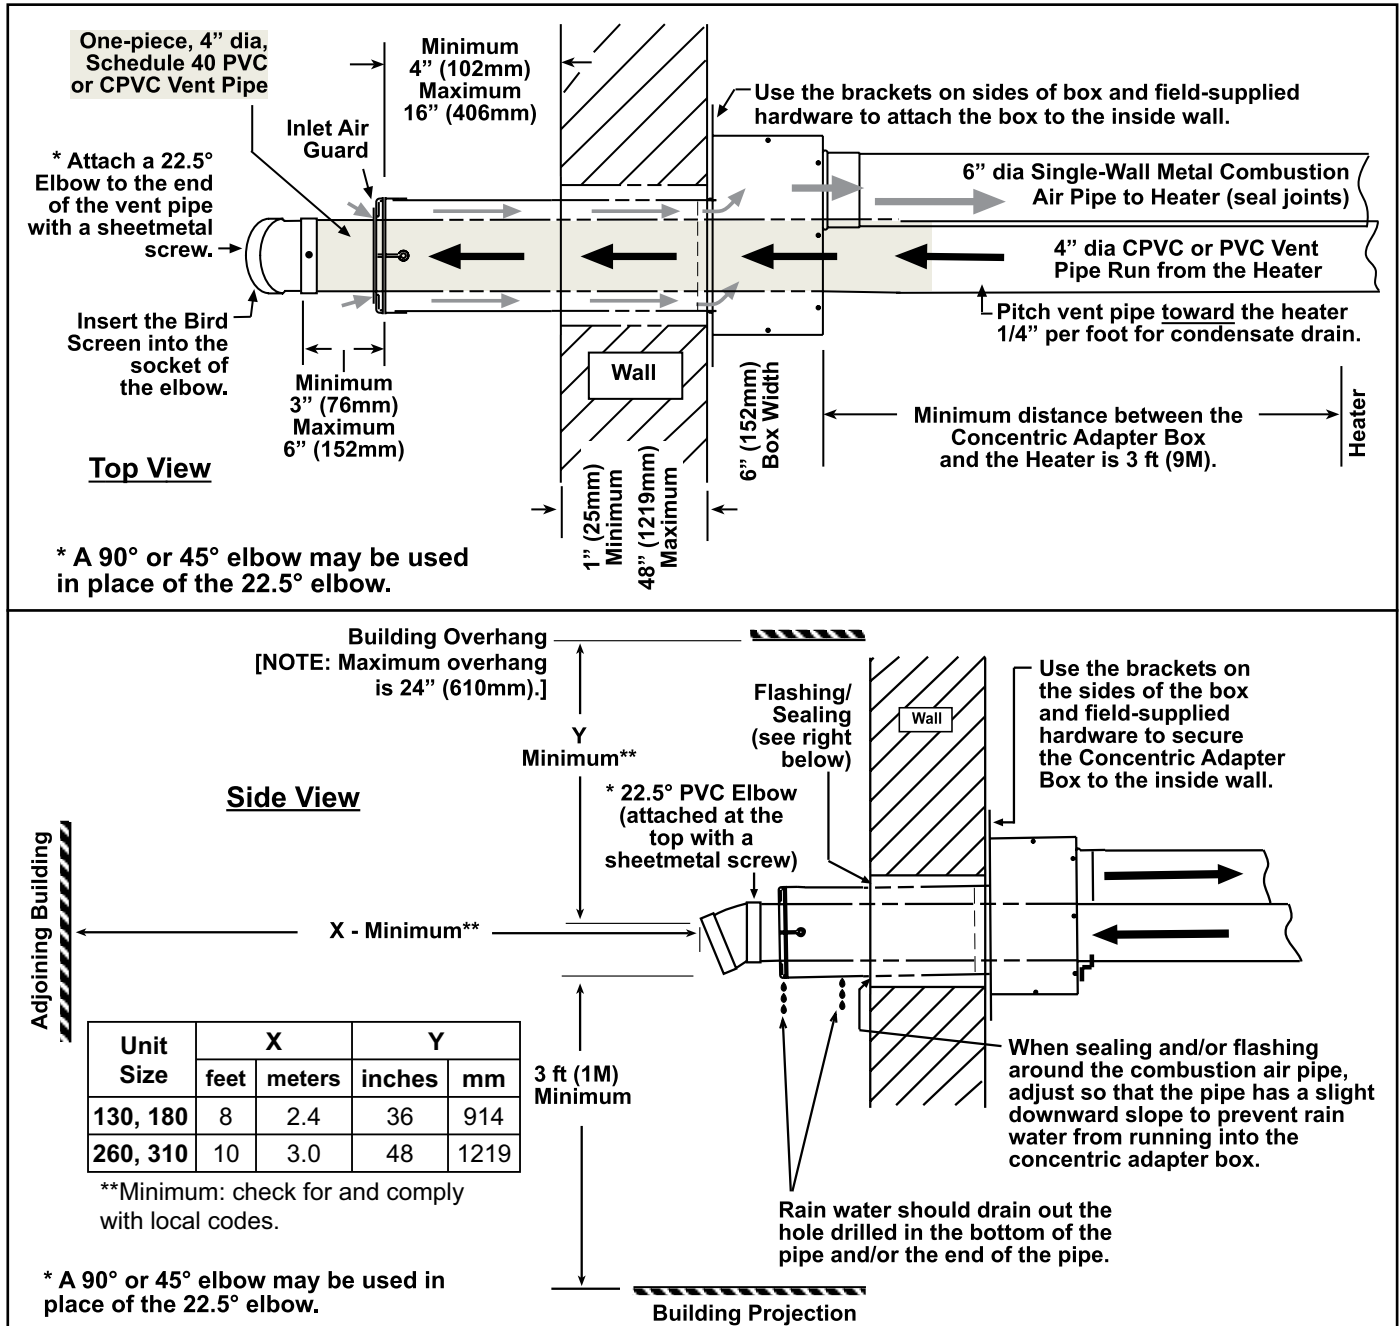

Figure 16. Option CC6 Installation
##### 4. Connect concentric adapter box (see Figure 16):
- a. Position inlet air ring guard over end of combustion air pipe in accordance with Figure 16.
- a. Refer to Figure 16 to determine lengths of each pipe segment and to calculate total length required.
**12. Verify compliance with Figure 16 and with all specifications listed in Venting and Combustion Air Requirements and Hazards of Chlorine sections.**